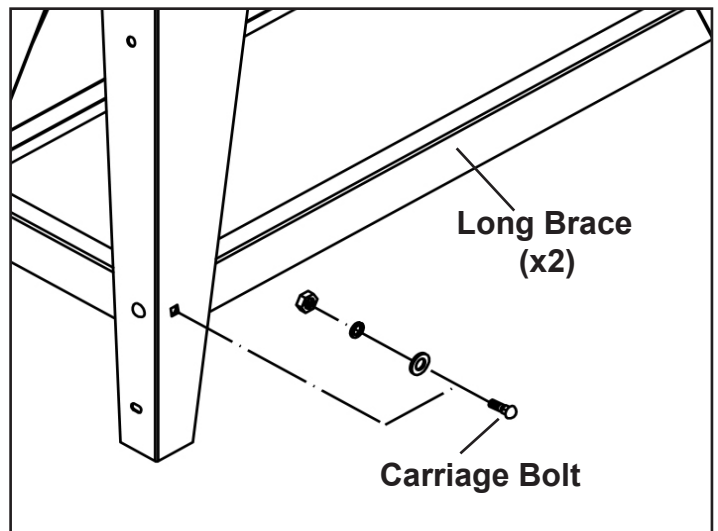

FIGURE 2
4. Lift the band saw onto floor, attach the long braces to legs with the M6-1.0 x 16 carriage bolts, 6mm flat washers, 6mm lock washers and M6-1.0 hex nuts. Figure 2.